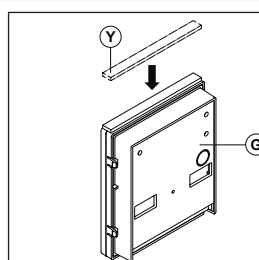

Fig. 3
Apply the (Y) seal as shown in Fig. 3.